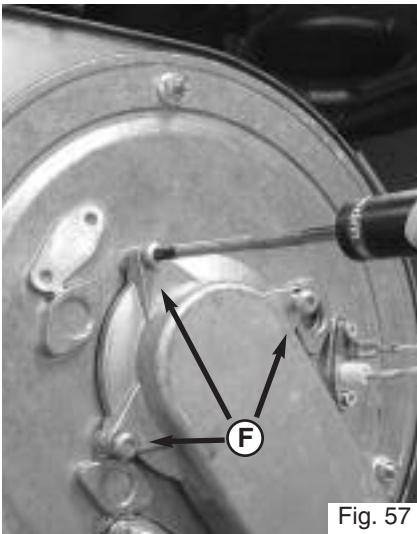

Fig. 56
7. Remove the air gas assembly and combustion chamber front (Fig. 56);